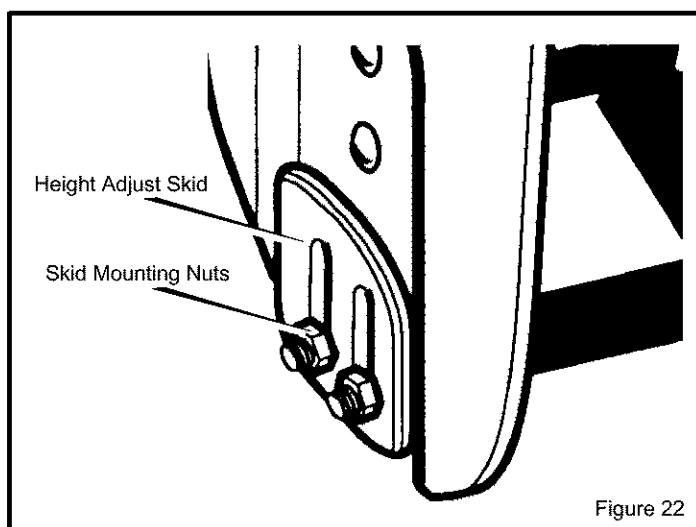

Figure 22
2. Loosen skid mounting nuts (Figure 22) and push the skid down until it touches the ground. Retighten mounting nuts.